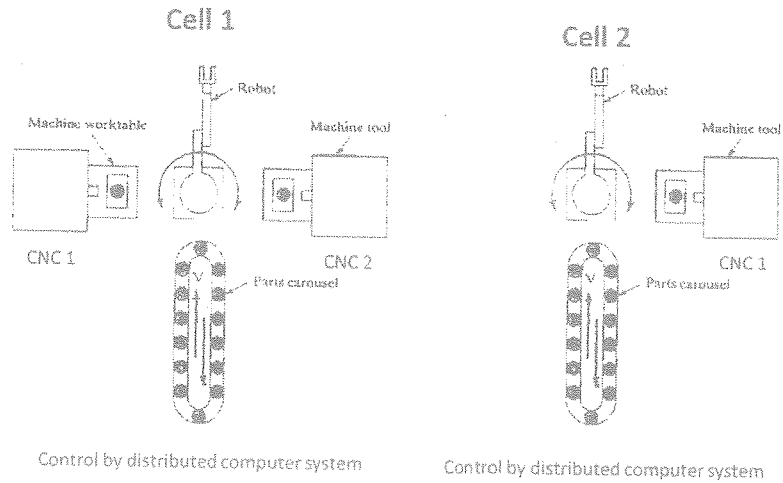

Figure Q5
- b) Apply the criteria in part (a) to compare the two machine cells given in Figure Q5. [1.0 Mark]